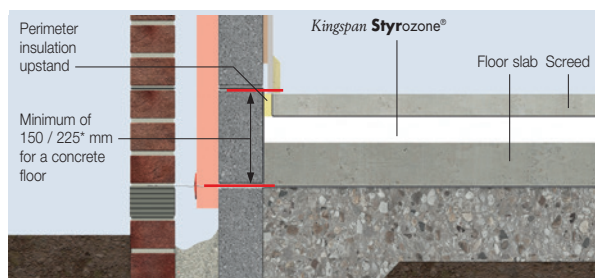

Figure 1 – Complete Masonry Floor Insulation
For buildings with relatively small ground floor areas (primarily domestic properties), if the ground floor is left uninsulated, the thermal performance will be poor. To enhance the thermal performance, complete insulation of the ground floor should be adopted (Figure 1).
- In order to minimise cold bridging at the edge of the floor, the distance between the top surface of the floor insulation or perimeter insulation upstand, and the bottom of the wall insulation must be a minimum of 150 / 225\* mm for a concrete floor (see Figures 1 & 2). The further down the wall insulation extends past the floor insulation, the better the thermal performance of the junction between the wall and the floor.